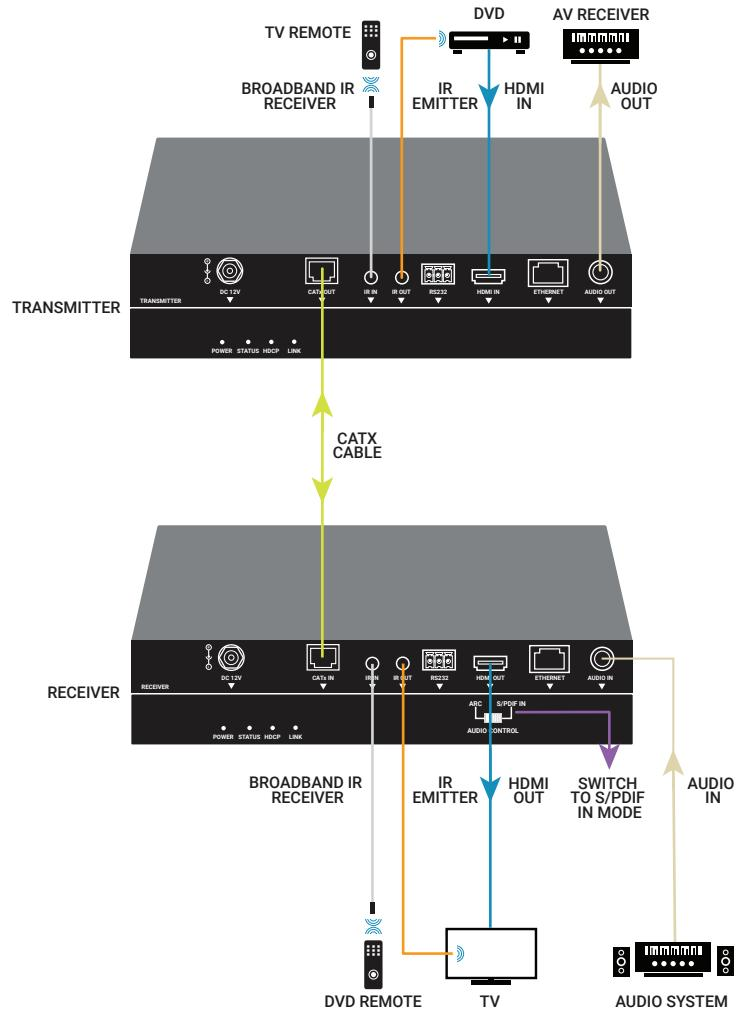

FIGURE 3-2. CONFIGURE S/PDIF
- ◆ When you configure the auxiliary S/PDIF input, switch it to S/PDIF mode and connect an audio system to the AUDIO IN port of the receiver. See Figure 3-2.